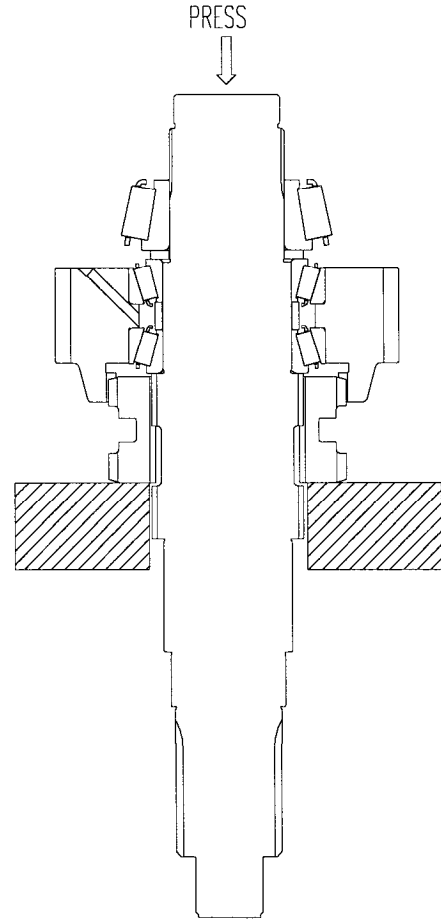

Fig. 38
5. Reinstall and engage the clutch collar gear into the direct drive gear. Place the shaft assembly in a press such that the face of the clutch collar gear is supported and the press arbor is against the larger threaded end of the shaft. *See Fig. 38.*